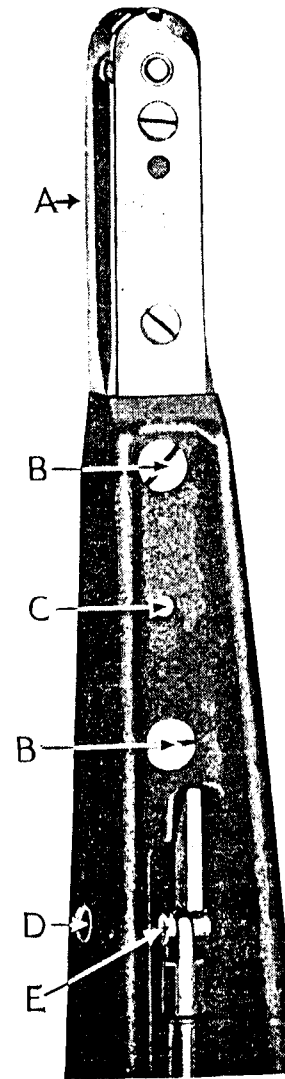

Fig. 20
Remove the machine head from the treadle stand or power bench by taking out the four screws. The machine head should now be tipped up and supported with the horn in a vertical position, the underside facing the adjuster. Parts can be examined or removed from the rack box by taking out the two screws (F) and removing the cover plate. The following parts are then exposed: long rack (J), short rack (K), intermediate pinion (L), shuttle driving pinion (H), needle plate locating pin and spring (M), all of which can be removed without disconnecting the rack box from the machine. To take out the shuttle carrier, remove the small set screw in the shuttle carrier pinion by inserting a small screw driver through the groove (G) at the side of the rack box. The shuttle carrier can then be pressed through the pinion. To remove the long rack, insert a screw driver through the hole (D, Fig. 20) and take out the screw. Before proceeding to withdraw the rack, remove the pinion (L), then grip the rack and draw it in a straight-away manner towards the pulley end of the machine. The short rack (K) and shuttle driving pinion (H) can be removed without difficulty. When replacing any one or re-assembling the whole of these parts, care must be taken to see that the gears and racks are correctly enmeshed, as shown in the illustration (Fig. 19).
(See Fig. 20)